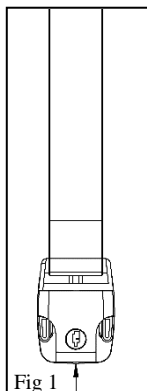

Fig 1
2. Each strap is supplied with a cabinet latch snapped in place. Leave the cabinet latches at the end of the straps, but remove the bag containing the screws and while lightly pulling downward on a strap, mark the center bottom of the latch (fig 1). A piece of tape may be a good method to do this. Mark each remaining strap in the same way.